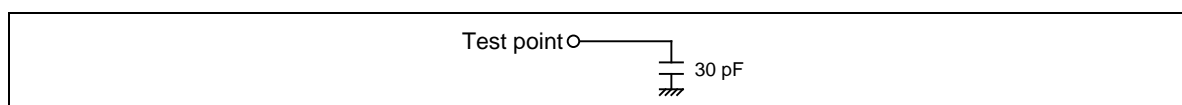

Figure 14 Load Circuit
2. Defined by connecting the load circuit shown in Figure 14.